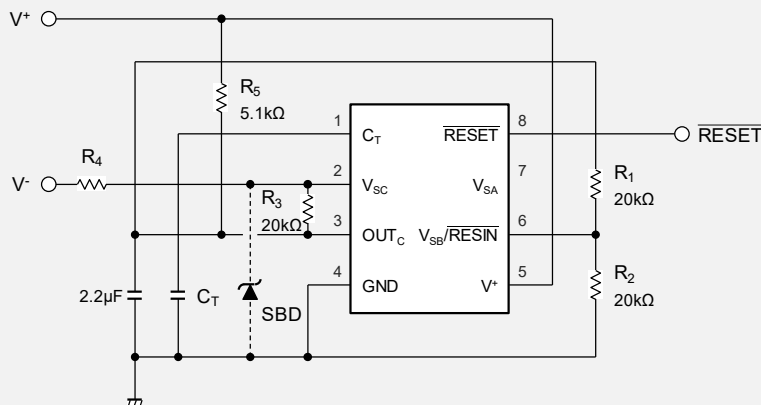

Fig. 10 Positive and negative dual power supply monitoring ($V^+ = 5V$, $V^- = \text{negative voltage}$)
- V^- detection voltage is calculated as following formula. In case of resistor value in Fig.10, the detection voltage (falling) is about -4.4V and the detection voltage (rising) is about -4.5V.